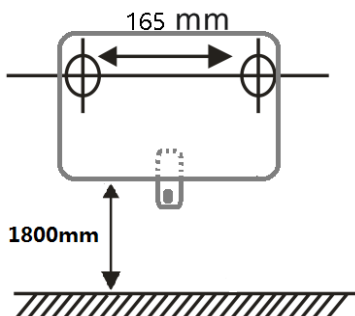

Figure 1
1. Position the wall mounting base on a suitably strong exterior wall, a minimum of 1.8m above the ground (refer figure 1).